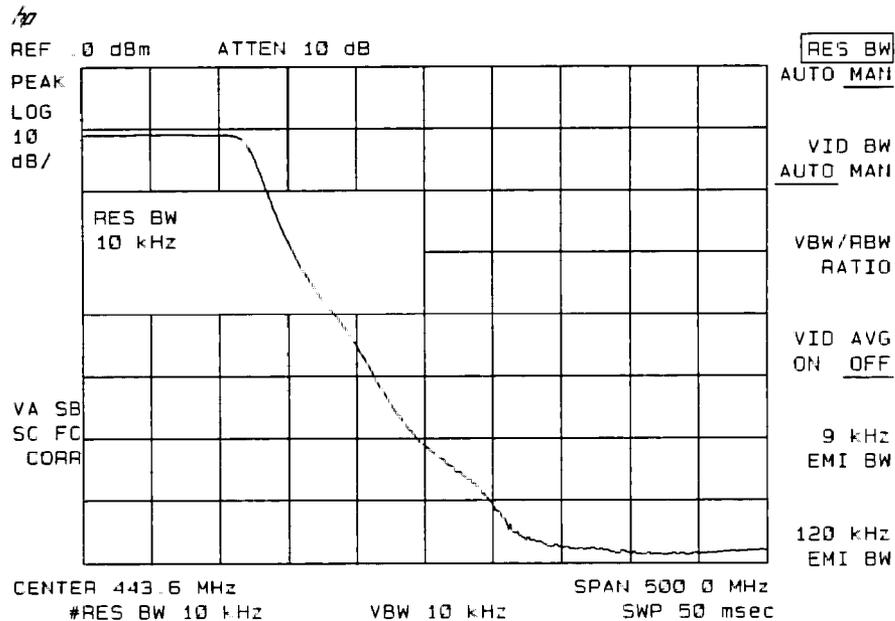

Figure 6-38. Decrease the Resolution Bandwidth to Improve Sensitivity
6. Decrease the resolution bandwidth to increase sensitivity, and narrow the video bandwidth to smooth the noise. In Figure 6-38, the resolution bandwidth has been decreased to 10 kHz.